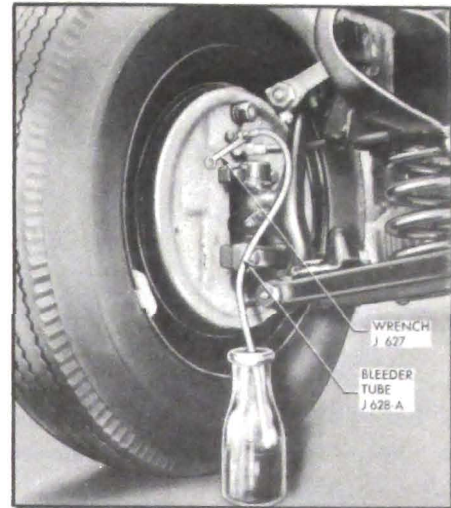

Figure 8-6—Bleeding Wheel Cylinder
3. Remove screw and attach Brake Bleeder Tube J 628-A to wheel cylinder bleeder valve. Place lower end of bleeder tube in a clean glass jar. Unscrew bleeder valve  $\frac{3}{4}$  of a turn, using Bleeder Wrench J 627. See figure 8-6.
**IMPORTANT:** When using a pressure tank, air bubbles may form in the tank and enter the brake hydraulic system. To avoid this observe the following points when handling a pressure tank: (1) Do not shake or agitate the pressure tank after air pressure has been added or is being added. (2) Allow pressure tank to stand in one position as much as possible, and bring air hose over to tank when adding head of air. (3) Make certain the valves on the pressure tank lines are not defective allowing air to be sucked in when fluid passes through the lines. (4) Pressure tank should be kept at least  $\frac{1}{3}$  full of fluid to avoid air bubbles forming. (5) If pressure tank is full of air bubbles, release air pressure and those bubbles will increase in size and be forced to top of fluid, and escape.
3. Remove screw and attach Brake Bleeder Tube J-628-A to wheel cylinder bleeder valve. Place lower end of bleeder tube in a clean glass jar. Unscrew bleeder valve  $\frac{3}{4}$  of a turn, using Bleeder Wrench J 627. See figure 8-6.